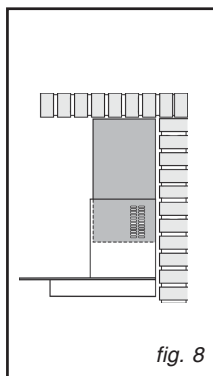

fig. 8
- For ducting hoods, turn the upper flue over so that the air exhaust grid is in the lower section (Fig. 8).